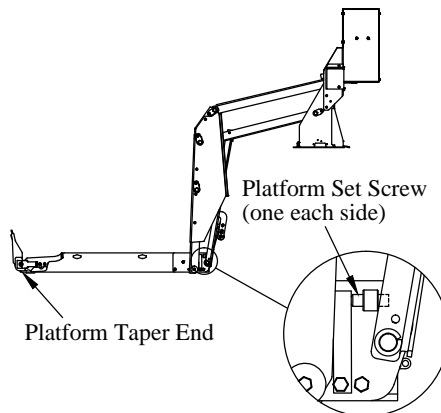

Figure 23: Platform.
3. **Adjust** the platform set screws until the platform taper end just rests on the ground (Figure 23).